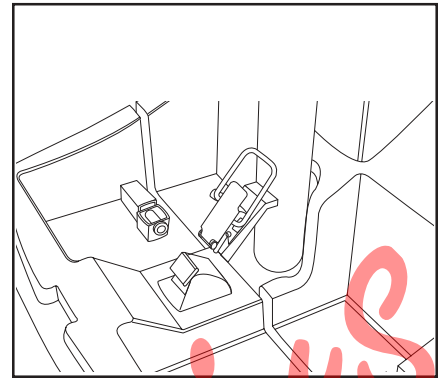

Figure 18B. Toggle Latch (Secured For Disassembly)
2. Secure the toggle latch buckle over the top of the toggle latch. See figure 18B.